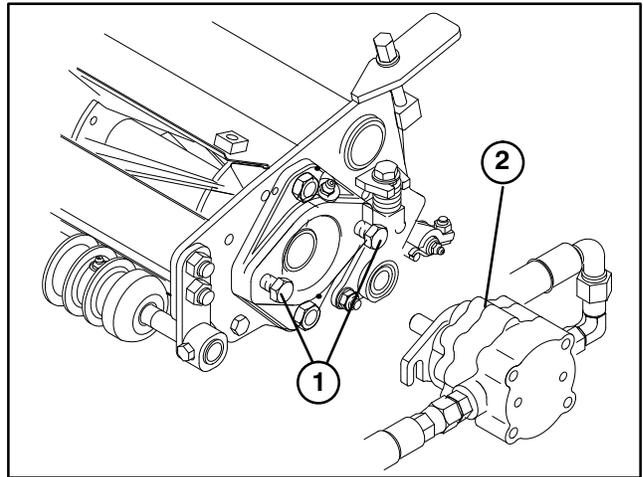

Figure 10
5. Assemble the mounting capscrews for the reel drive motor to each cutting unit. Leave approximately 1/2 in. of threads exposed on each mounting capscrew (Fig. 10).
8. Coat the spline shaft of the motor with clean grease and install the motor by rotating the motor clockwise so the motor flanges clear the studs. Rotate the motor counter-clockwise until the flanges are encircling the studs and tighten the mounting capscrews (Fig. 10).